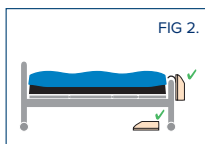

FIG 2.
- Position the control unit by hanging the hooks over the foot board. If there is no foot board or the cushion is in use, place the unit on the floor with the front facing upwards. Ensure the rear of the unit is not obstructed by carpet, rugs etc. It is advisable to place the unit on a firm surface (FIG 2).